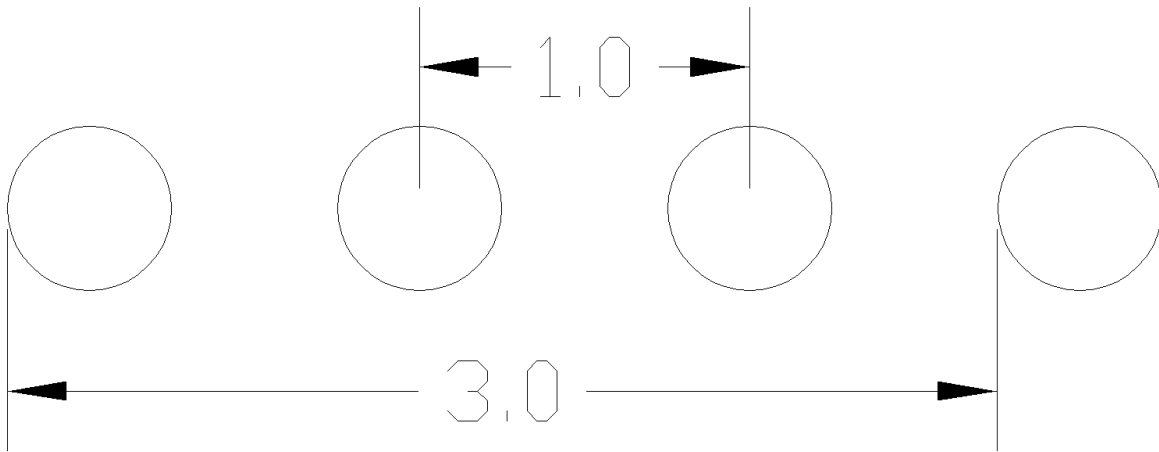

Figure 4. Edge-to-edge measurement
3. Measure the average horizontal distance between adjacent dots. ProAnalyst uses center-to-center dot measurements in its algorithm. However, exactly measuring the center of the dots is difficult to do. Finding the apex of a dot is much easier than locating the center. Measure from edge to edge (using the same edges, left edge to left edge, or top edge to top edge), then divide that measurement by the number of dots in the row minus 1 ($n-1$). This procedure will give you the average center-to-center measurement. The diagram in Figure 4 illustrates the edge-to-edge measuring procedure.